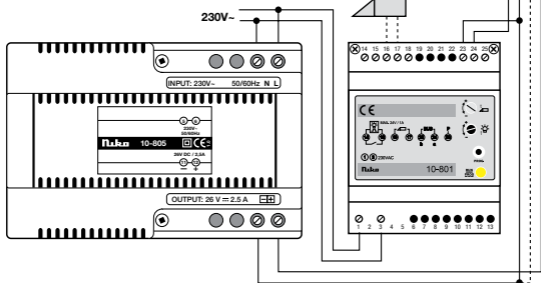

fig.4
d. Wiring diagram of a complete system (fig.4).